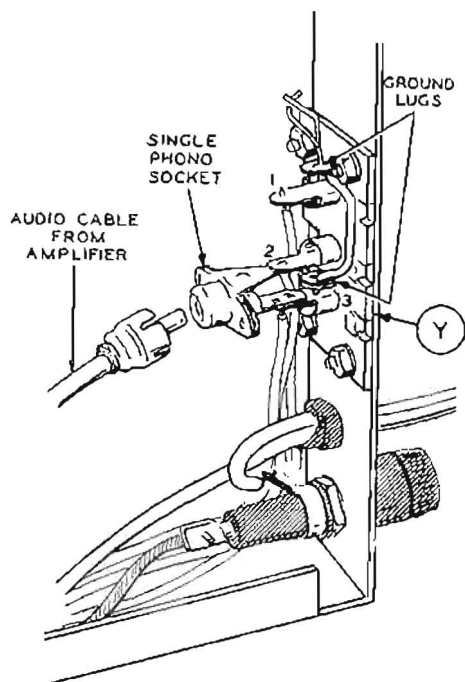

Figure 15
- () Referring to Figure 15, temporarily solder the lugs of the single phono socket between lugs 2 and 3 of triple phono socket Y. Be sure the socket does not touch the chassis or multiplex circuit board.